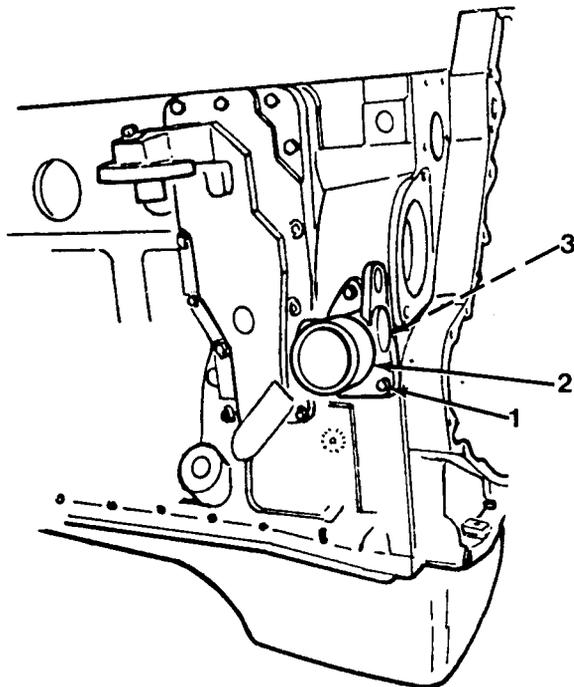

Figure 9-1
3. Using a 15 mm socket, remove three cap-screws (1), water inlet connection (2) and O-ring (3, Figure 9-1).